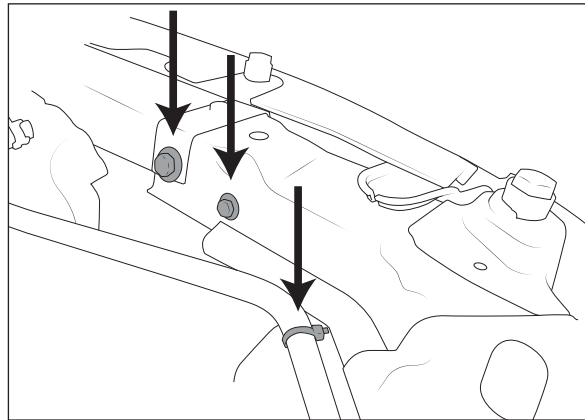

Figure 1
2. Remove 1 M10 bolt on radiator support and SAVE (fig. 1).
3. Remove 1 M6 bolt on radiator support and SAVE (fig. 1).
4. Un-clip radiator overflow hose (fig. 1).